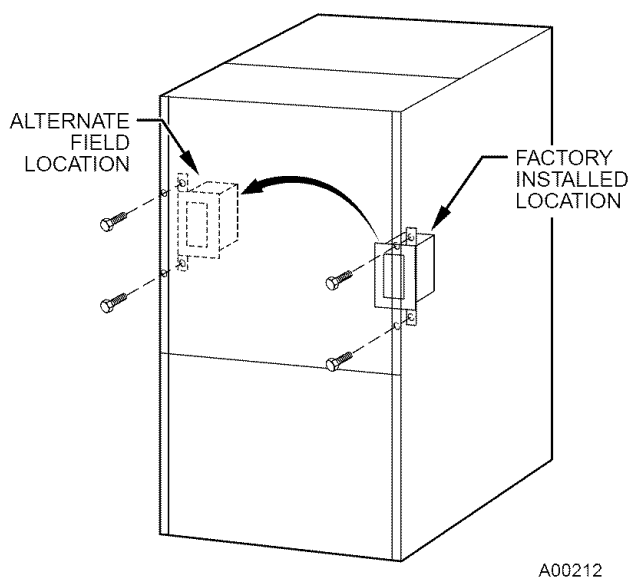

Fig. 29—Relocating J-Box
1. Remove 2 screws holding auxiliary J-box. (See Fig. 29.)